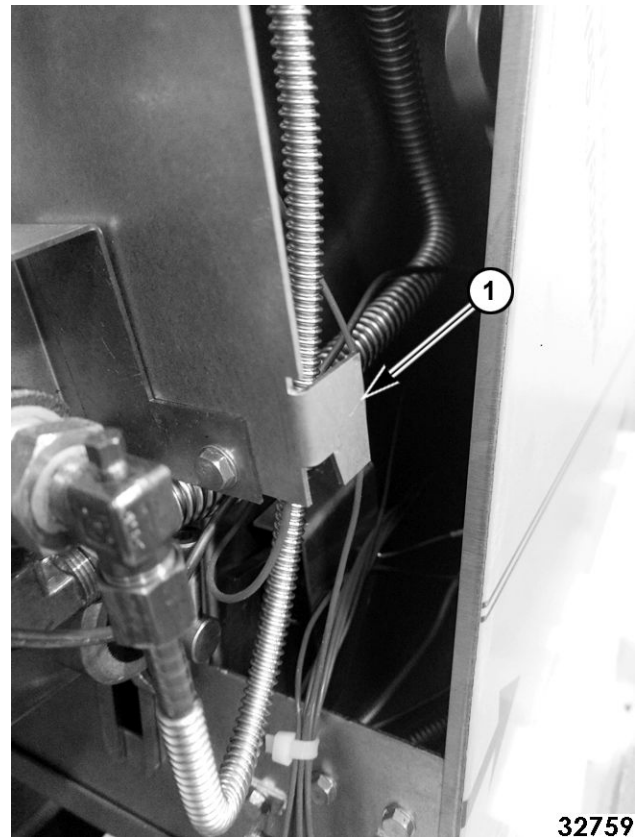

Fig. 34
6. Lift up gas mount bracket to release hook (1, Fig. 34) off inner tab (1, Fig. 34). Pull out pilot safety valve and temperature control bracket assembly from oven.